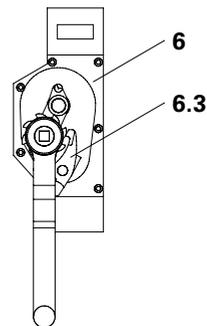

Fig. 31
- free movement of the Lifting Frame (1). Lifting Frame can be extended and retracted to maximum and minimum lengths.
- check the free movement of the Winch (6). Winch must not slip on the toothed track or be sluggish when used.
- locking pawl (6.3) on the winch (6) must be checked for functionality. The locking pawl must close automatically. (Fig. 31)